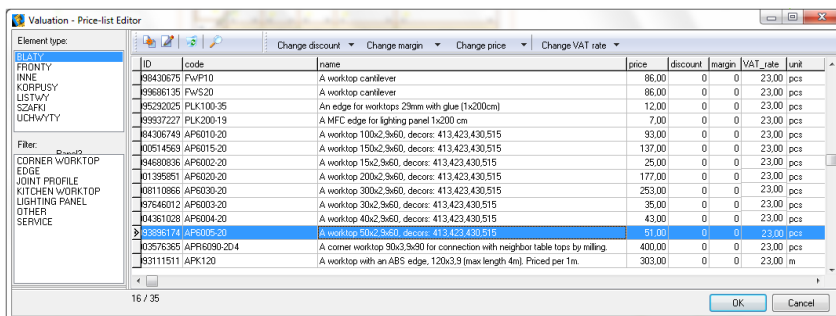

Fig. 302 – price-list editor
- you are taken to the price-list of worktops (Fig. 302) (available also under the icon  after selecting a position on the list of worktops);